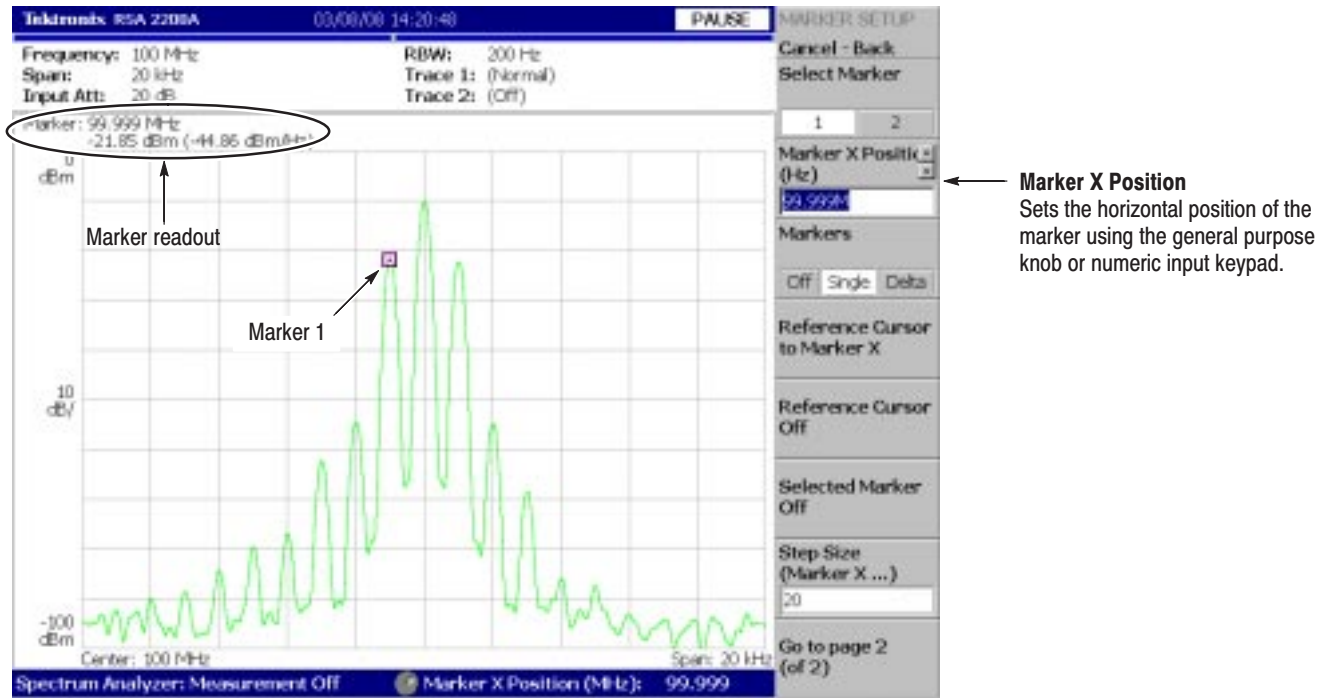

Figure 2–20: Measurement with a single marker
3. The **Marker X Position** menu item is selected by default. Turn the general purpose knob to move the marker to a measurement point (see Figure 2–20).
4. The **Marker X Position** menu item is selected. Using the general purpose knob or the numeric input keypad, move the marker to a reference point (see Figure 2–21).